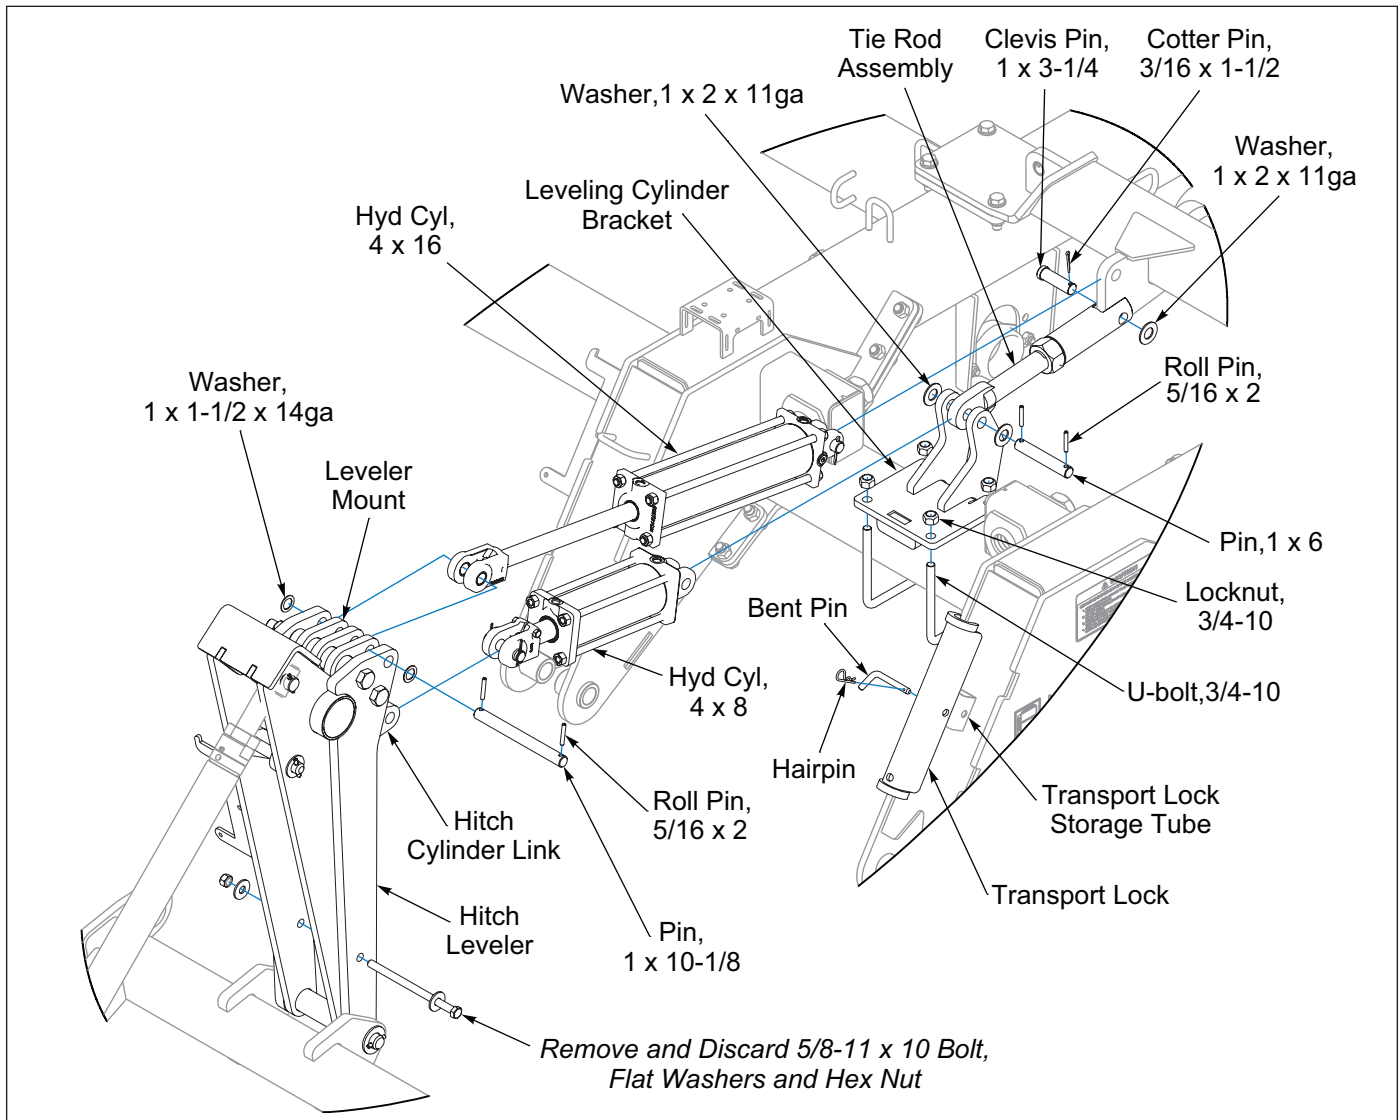

Figure 2-12: Drawbar Leveler
1. Assemble the Leveling Cylinder Bracket to the center of the Front Roller Frame Tube with 3/4-10 U-Bolts and Locknuts. Do Not Tighten at this time. **See Figure 2-12.**